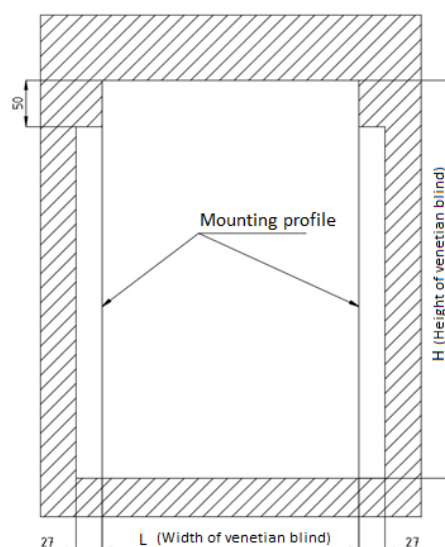

Fig. 2. Installation of mounting profile in window niche
- Installation of the profile is shown in Fig. 2.